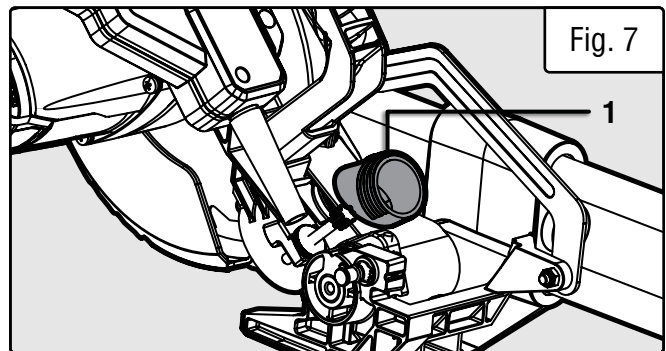

Fig. 7
1. Locate the dust port on the back of the miter saw (Fig. 7 - 1).